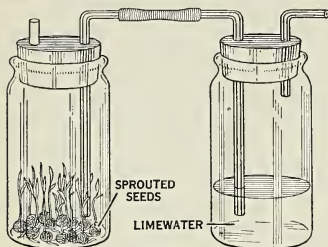

Fig. 335. To show that plants breathe.
*Directions:* (a) Arrange as shown in Figure 335. Allow to stand 24 hours. Put fresh limewater into bottle at right. Draw out the air from this bottle.